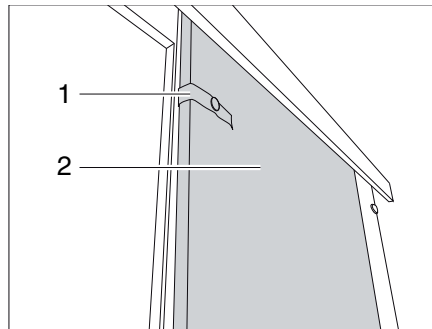

Fig. 85 Sliding door
- Release the securing strap (Bild 85,1).
- Pull the sliding door (Bild 85,2) into the closing position.
- Push the sliding door (Bild 85,2) into the open position.
- Secure the sliding door with the securing strap (Bild 85,1).